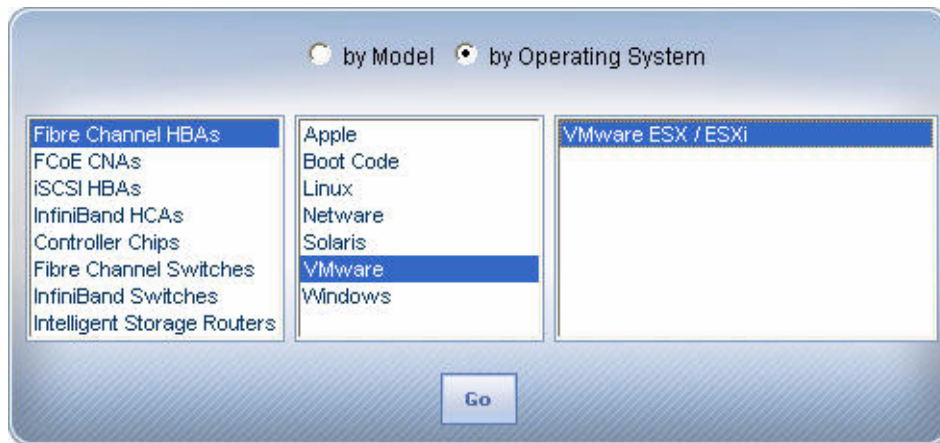

Figure 2-2 Downloading SANsurfer FC HBA Manager—VMware
2. Click the **by Operating System** button, and then select **Fibre Channel HBAs**, **VMware**, and **VMware ESX/ESXi**, as shown in Figure 2-2.